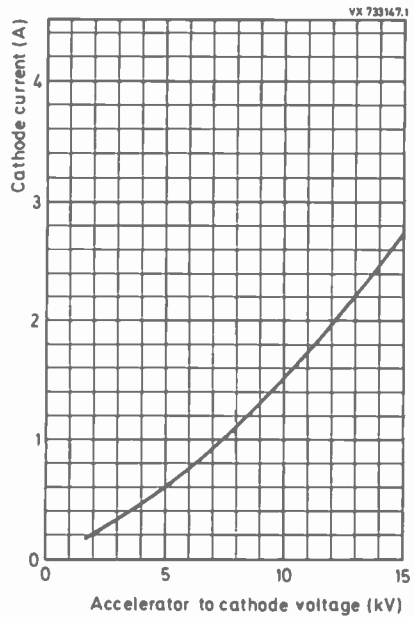

Fig. 5.
6. For cathode current versus accelerator-to-cathode voltage, see Fig. 5.